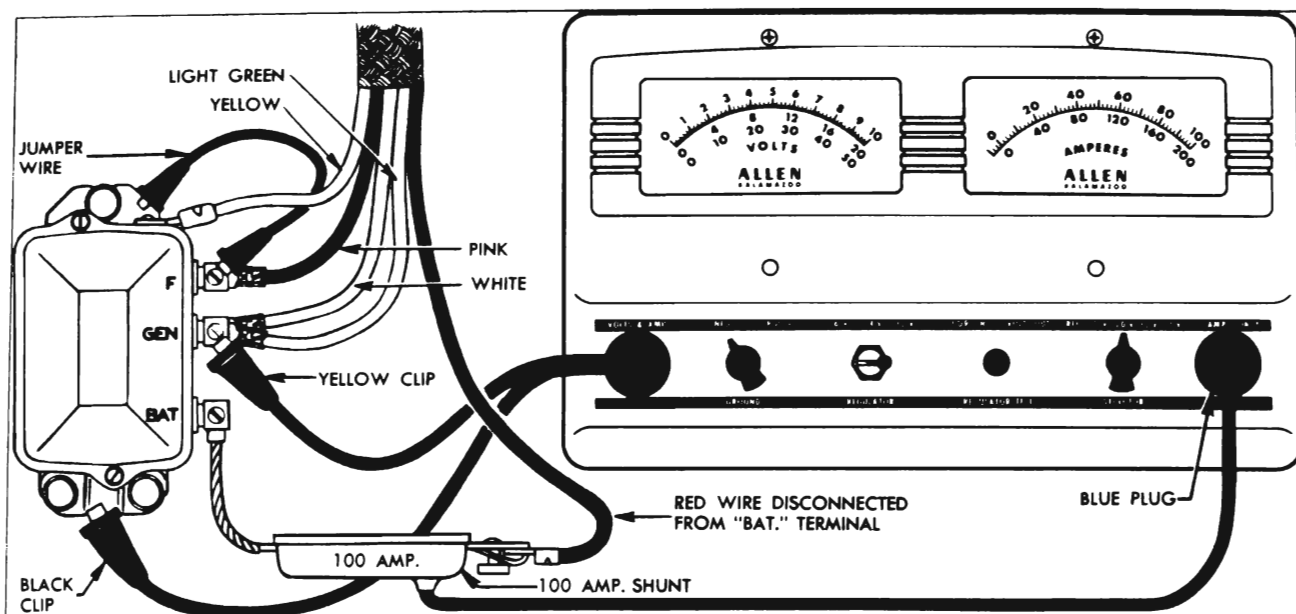

Figure 10-17—Cutout Relay Test Connections—Allen Tester
3. Disconnect wire from regulator terminal marked "BAT" and attach flexible lead of 100 AMP. SHUNT to the "BAT" terminal of regulator. Attach the disconnected battery wire to opposite end of the SHUNT. See figure 10-17.
4. Insert RED plug of voltmeter lead into "VOLTS & AMPS" socket of tester, connect YELLOW clip of lead to regulator terminal marked "GEN", and connect BLACK clip to ground on base plate of regulator. See figure 10-17.
(a) Reconnect the 100 AMP. SHUNT as shown in figure 10-17, but do not connect the jumper wire nor the voltmeter lead (yellow and black clips).